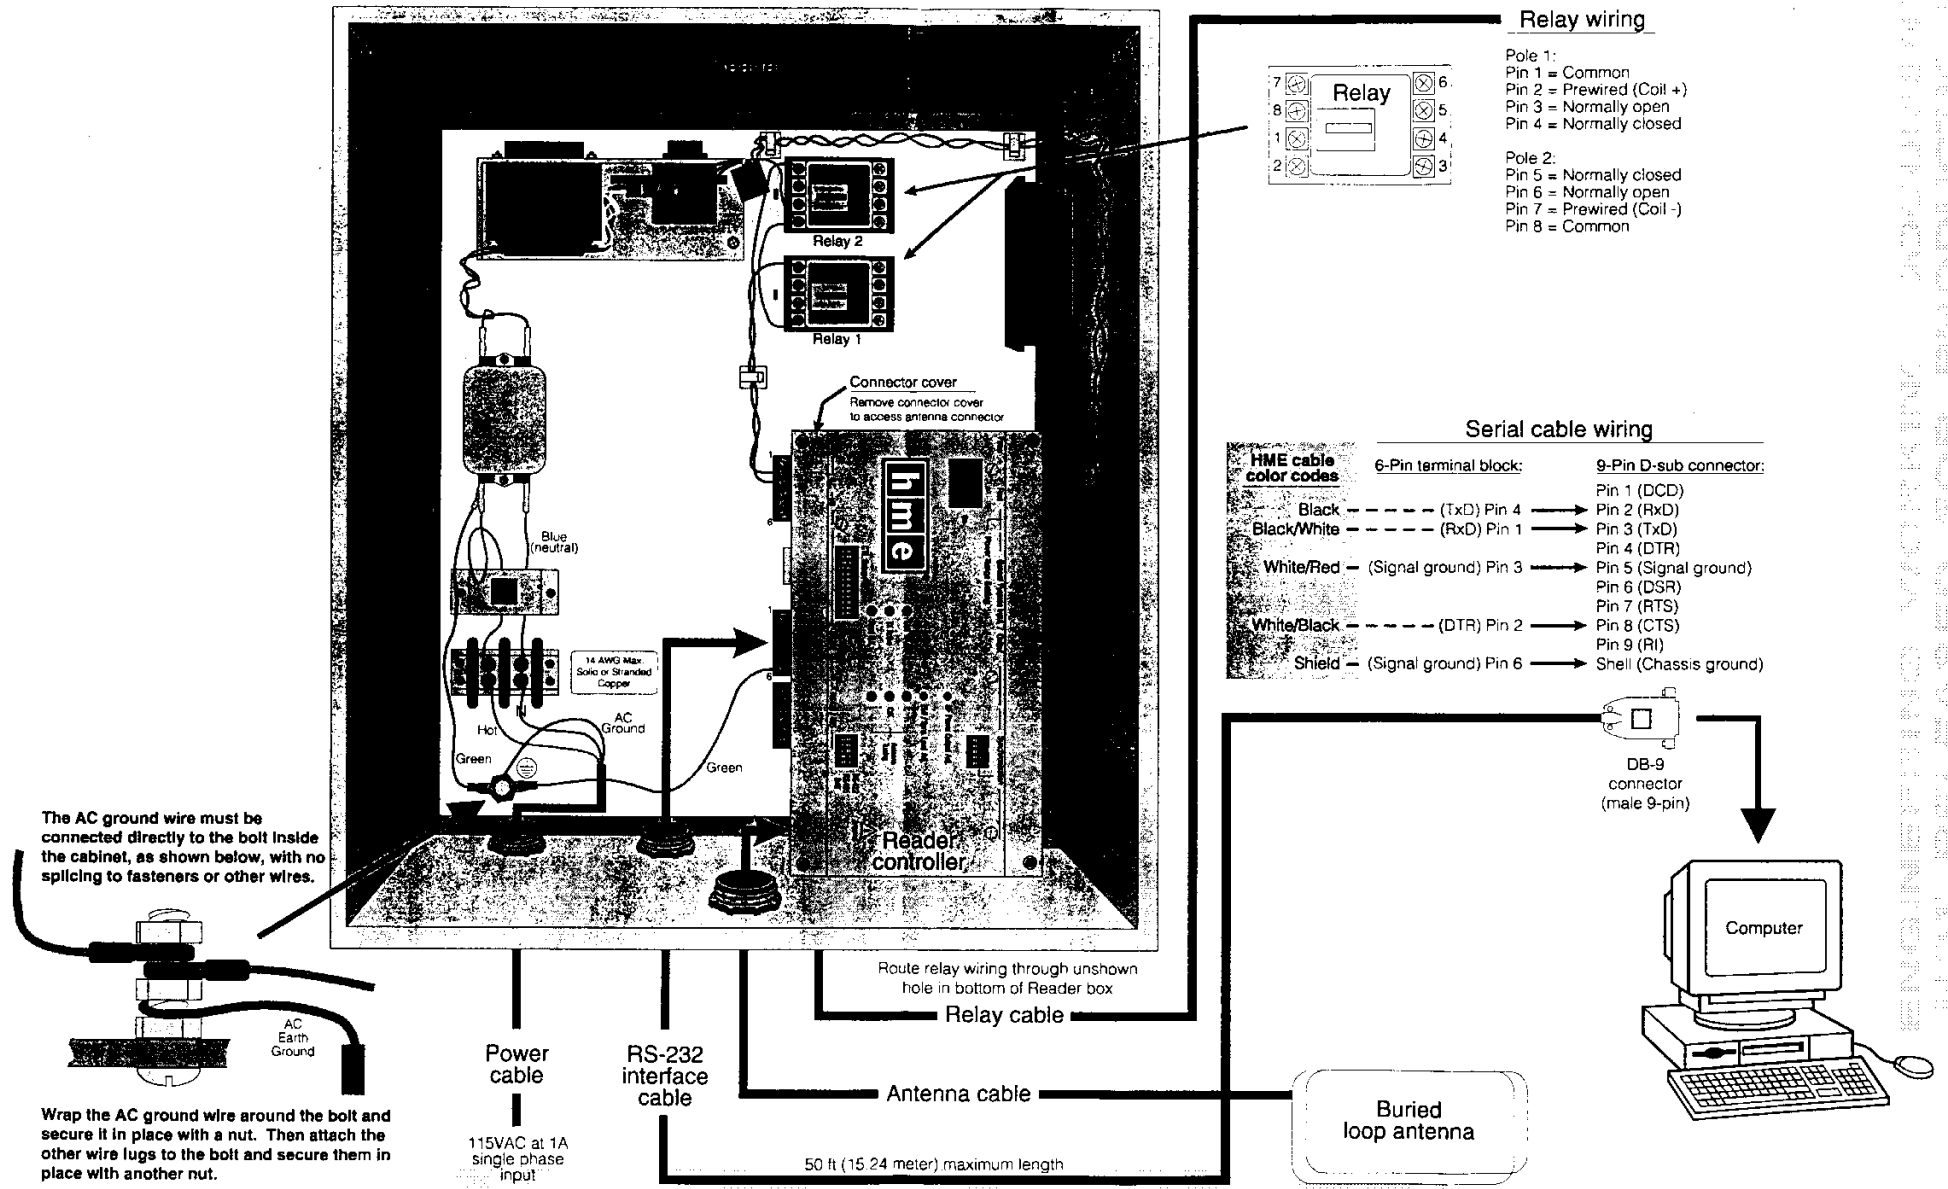

Figure 11.
In order to connect the loop antenna wires to the Reader, the connector cover (shown in Figure 11) must be removed from the left side of the Reader controller by removing the two screws and lifting the cover from the unit.
- Connect the power cable wires in the Reader according to color codes, as shown in Figure 11.
- In the Reader, make the RS-232 interface cable connections shown in Figure 11 for the Serial cable wiring 6-pin terminal block.
- Connect the barrier opener wires inside the Reader, as shown in Figure 11.